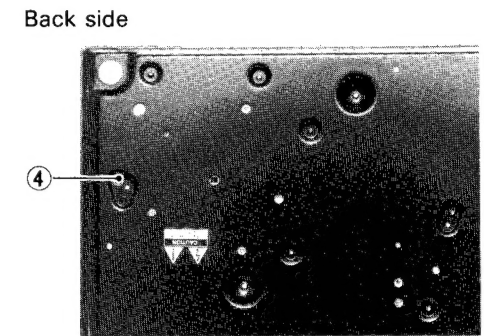

Fig. 15
2. Remove screw (4) as shown in Fig. 15.